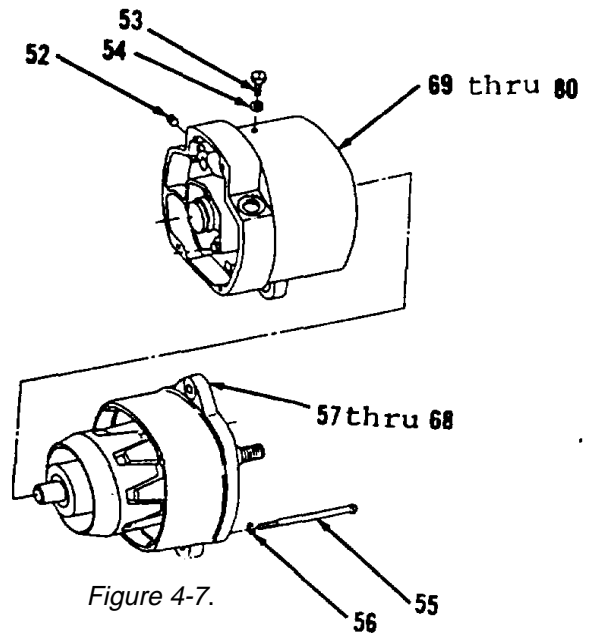

Figure 4-7.
- 24. Support heat sink (51) and remove three positive diode wire assemblies (50) at terminals, if necessary.
- 25. Remove plug (52, Figure 4-7).
- 26. Remove screw (53) and lockwasher (54).
- 27. Remove four screws (55) and washers (56).